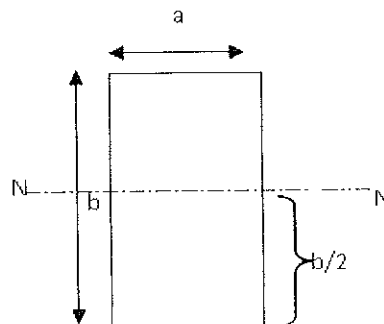

Figure 2
- (Q3) (a) Determine the second moment of area for the following rectangular cross section (Figure 2) about the given axis N-N. (04 Marks)